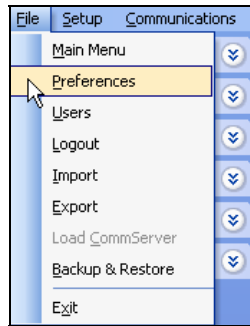

Figure 2.0.1
1. In the toolbar at the top of the screen select **File** and then scroll down to the word **Preferences** and click on it (Figure 2.0.1).